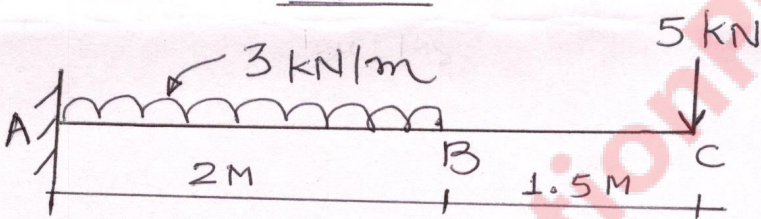

Fig. 5
- (d) Draw shear force and bending diagram for the beam as shown in fig.5 ૦૪